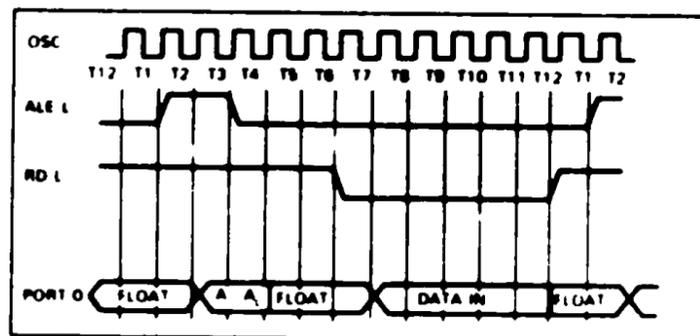

Figure 2-15 Data Read Cycle Timing
2.3.9.1 Data Read Timing Cycle - The read cycle begins during T2, with the assertion of the ALE signal (Figure 2-15). The falling edge of this signal latches the address onto the low address bus. This address selects which control register the read address decoder enables. At T5, the address is removed from the port 0 bus. The data read control signal (RD L) is asserted during T7. This signal allows the address decoder to enable the selected output line to toggle low. When this happens, the data from the control register is released to the data bus. The read control signal also enables the data buffer to transfer this data to the CPU for processing. After T12, the read control signal returns to the unasserted state. This causes the addressed device to float its bus drivers and relinquish the data bus. Figure 2-15 shows the data read cycle timing.